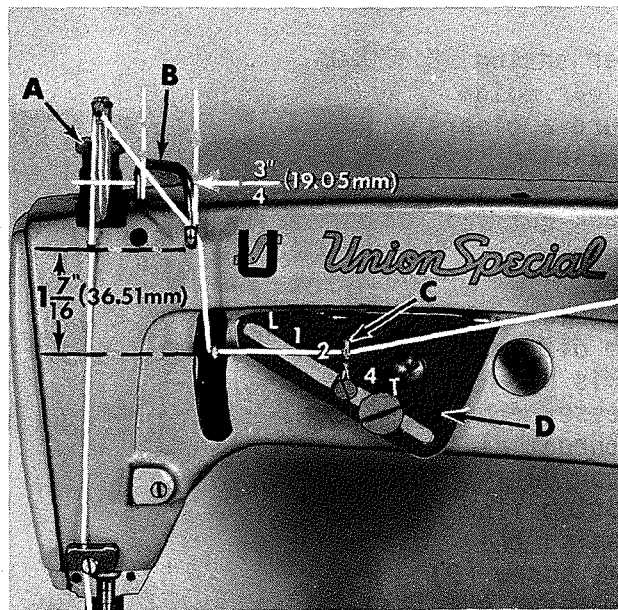

Fig. 14
Adjust presser spring regulating screw (A, Fig. 14) so that it exerts only enough pressure on the presser foot to feed the work uniformly when a slight tension is placed on the fabric. This is the knurled screw, located directly behind the needle bar in the head of the machine. Turning it
With needle bar at the top of its stroke, set needle thread take-up wire (B, Fig. 14) so its lower extended surface is $1 \frac{7}{16}$ inch (36.51mm) above centerline of needle lever thread eyelet hole and $\frac{3}{4}$ inch (19.05mm) across the centerlines of its vertical surfaces (See Fig. 14).
Adjust looper thread tension to a minimum required for controlling the looper thread (light). Set thread index eyelet (C, Fig. 14) at "3" on the adjusting plate (D). Changing the needle thread tension only, balance the stitch so that when 6" of sewn seam are raveled back, the needle thread is approximately as long as the looper thread. A 1" difference in lengths is permissible.